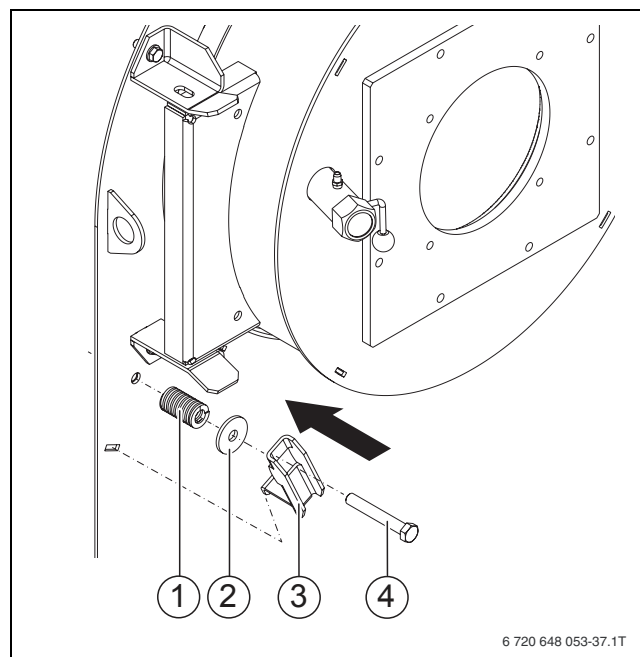

Fig. 15 Installation
- ▶ Unhook the rocker arm (→ Fig. 15, [3]).
- ▶ Release the compression spring (→ Fig. 15, [1]) with Allen screw (→ Fig. 15, [4]).
- ▶ Fit the washer (→ Fig. 15, [2]).